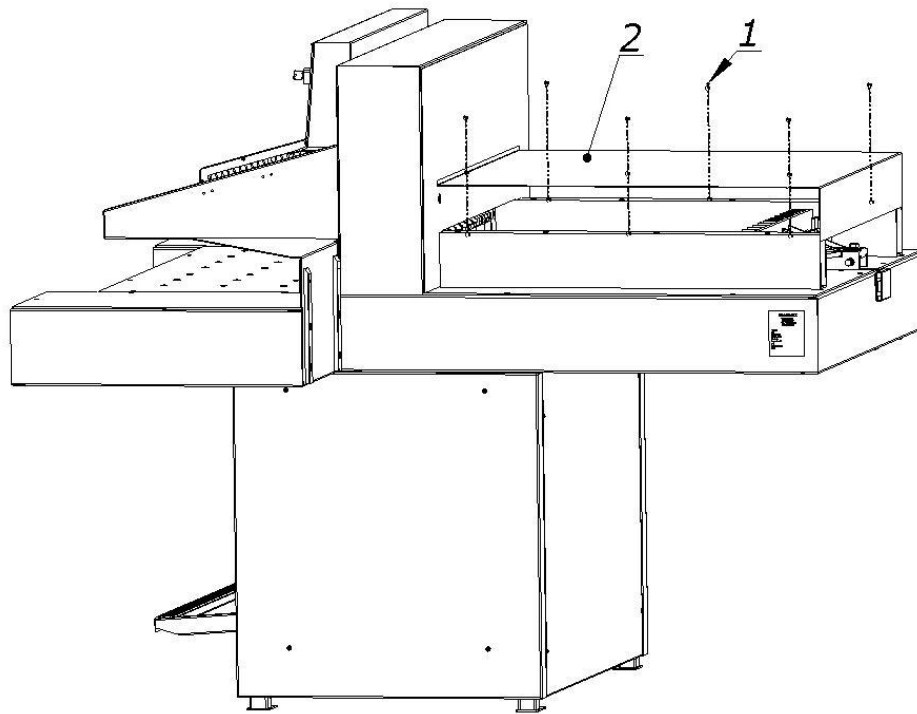

Figure. 42 How to remove the cover
8.4.1 unscrew the screws (1, fig.42)
8.4.2 remove the cover (2, fig.42)